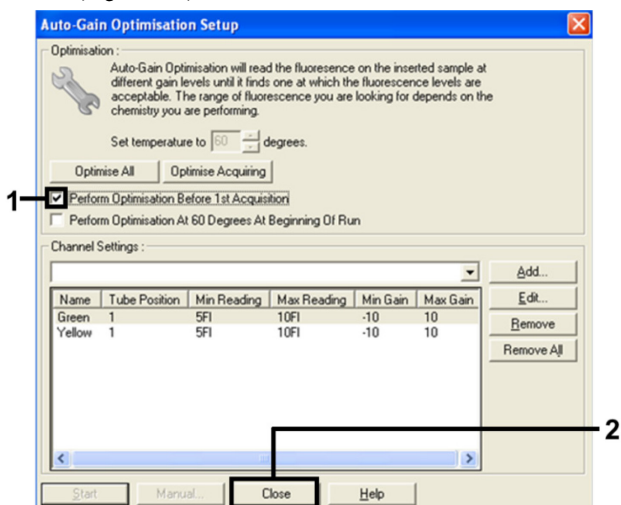

Figure 12. Selection of Green and yellow channels.
14. Check the "Perform Optimisation before 1st Acquisition" box, and then click "Close" to return to the wizard (Figure 12).